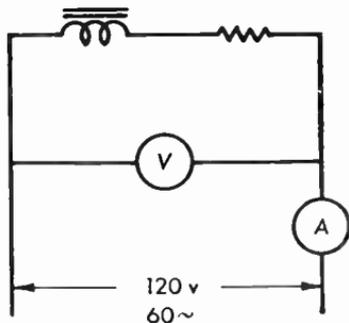

Fig. 12.08 Circuit for measuring inductance with a voltmeter and an ammeter.
**12.08** The filter choke in Figure 12.08 has a resistance of 450 ohms. The voltmeter across the 60-cycle line reads 120 volts, the ammeter 21.5 milliamperes. What is the approximate inductance of the choke and its power factor?